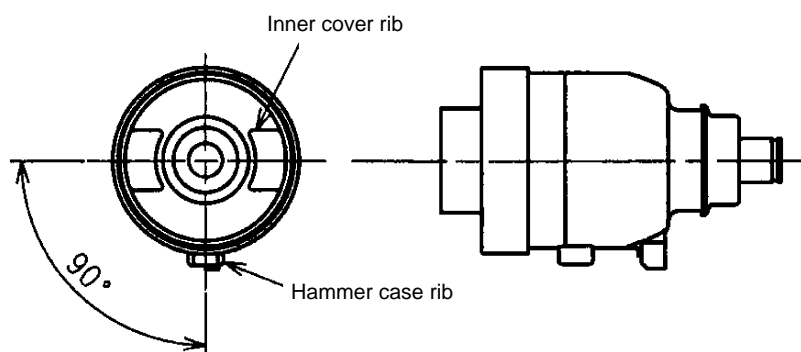

Fig. 16
Push Inner Cover (D) [25] <22> in the Hammer Case [7] <3> being careful of proper engagement between the Idle Gear Set (2 pcs.) [18] <15> of the hammer assembly (check that Washer (E) [22] <19> is mounted on Spindle (D) [17] <14>) and Ring Gear (E) [20] <17>. At this time, adjust the position so that the rib of Inner Cover (D) [25] <22> is perpendicular to the rib of the Hammer Case [7] <3> (see Fig. 16). Mount the above assembly of Inner Cover (D) [25] <22> to the Armature Ass'y DC 14.4 V [26] <23>. After mounting, check that the Armature Ass'y DC 14.4 V [26] <23> turns smoothly. If not, the gears mesh improperly. Check the meshing condition.
- Check that the Hammer Case [7] <3> is mounted to the housing properly. If the Hammer Case [7] <3> is not fitted in the specified groove of the housing or the rib of Inner Cover (D) [25] <22> is not perpendicular to the rib of the Hammer Case [7] <3>, remount the Hammer Case [7] <3> properly (see Figs. 16, 19 and 20). Be sure to mount the Hammer Case [7] <3> to the housing properly to prevent slipping off in the axial direction.
- Apply silicone grease (KS609, Shin-Etsu Chemical Co., Ltd.) to the contacting surfaces of the FET of the DC-Speed Control Switch [45] <42> and Dust Guard Fin (C) [30] <27> then mount them to housing (A).